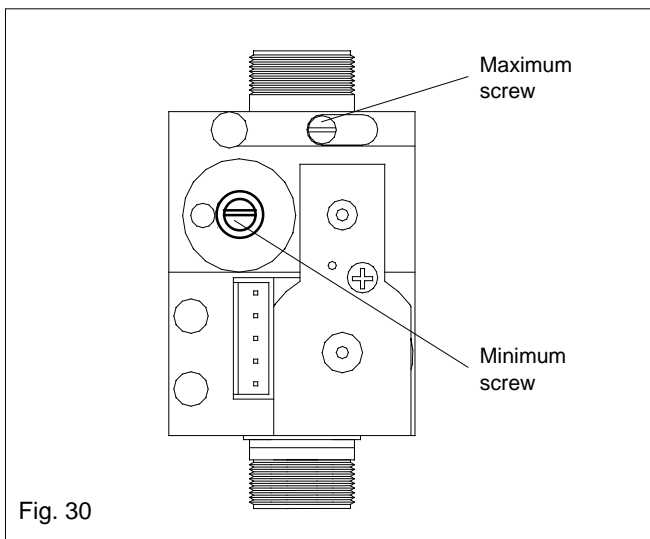

Fig. 30
- Using a suitable screwdriver, very slowly turn the minimum adjustment screw (fig. 30) – clockwise to increase, counter clockwise to decrease – until the correct value is displayed on the CO2 analyser (allow time for the analyser to stabilise).
- Using a suitable screwdriver, very slowly turn the maximum adjustment screw (fig. 30) – clockwise to increase, counter clockwise to decrease – until the correct value is displayed on the CO2 analyser (allow time for the analyser to stabilise).